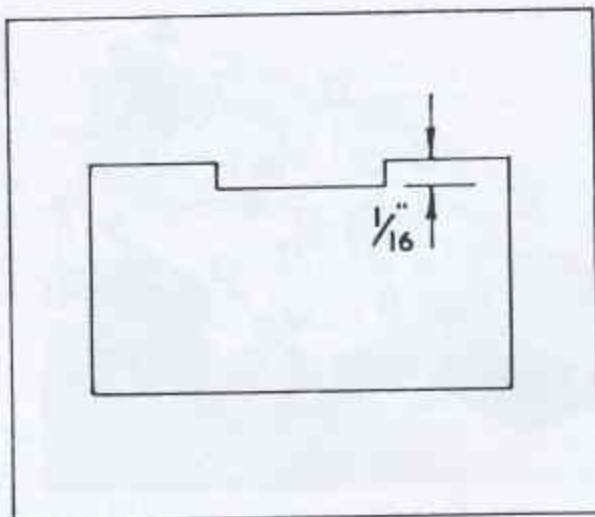

FIG. 16.
10. Always notch cutters for french spindles as shown in FIG.16 for the spindle locking bolt to locate the cutter.